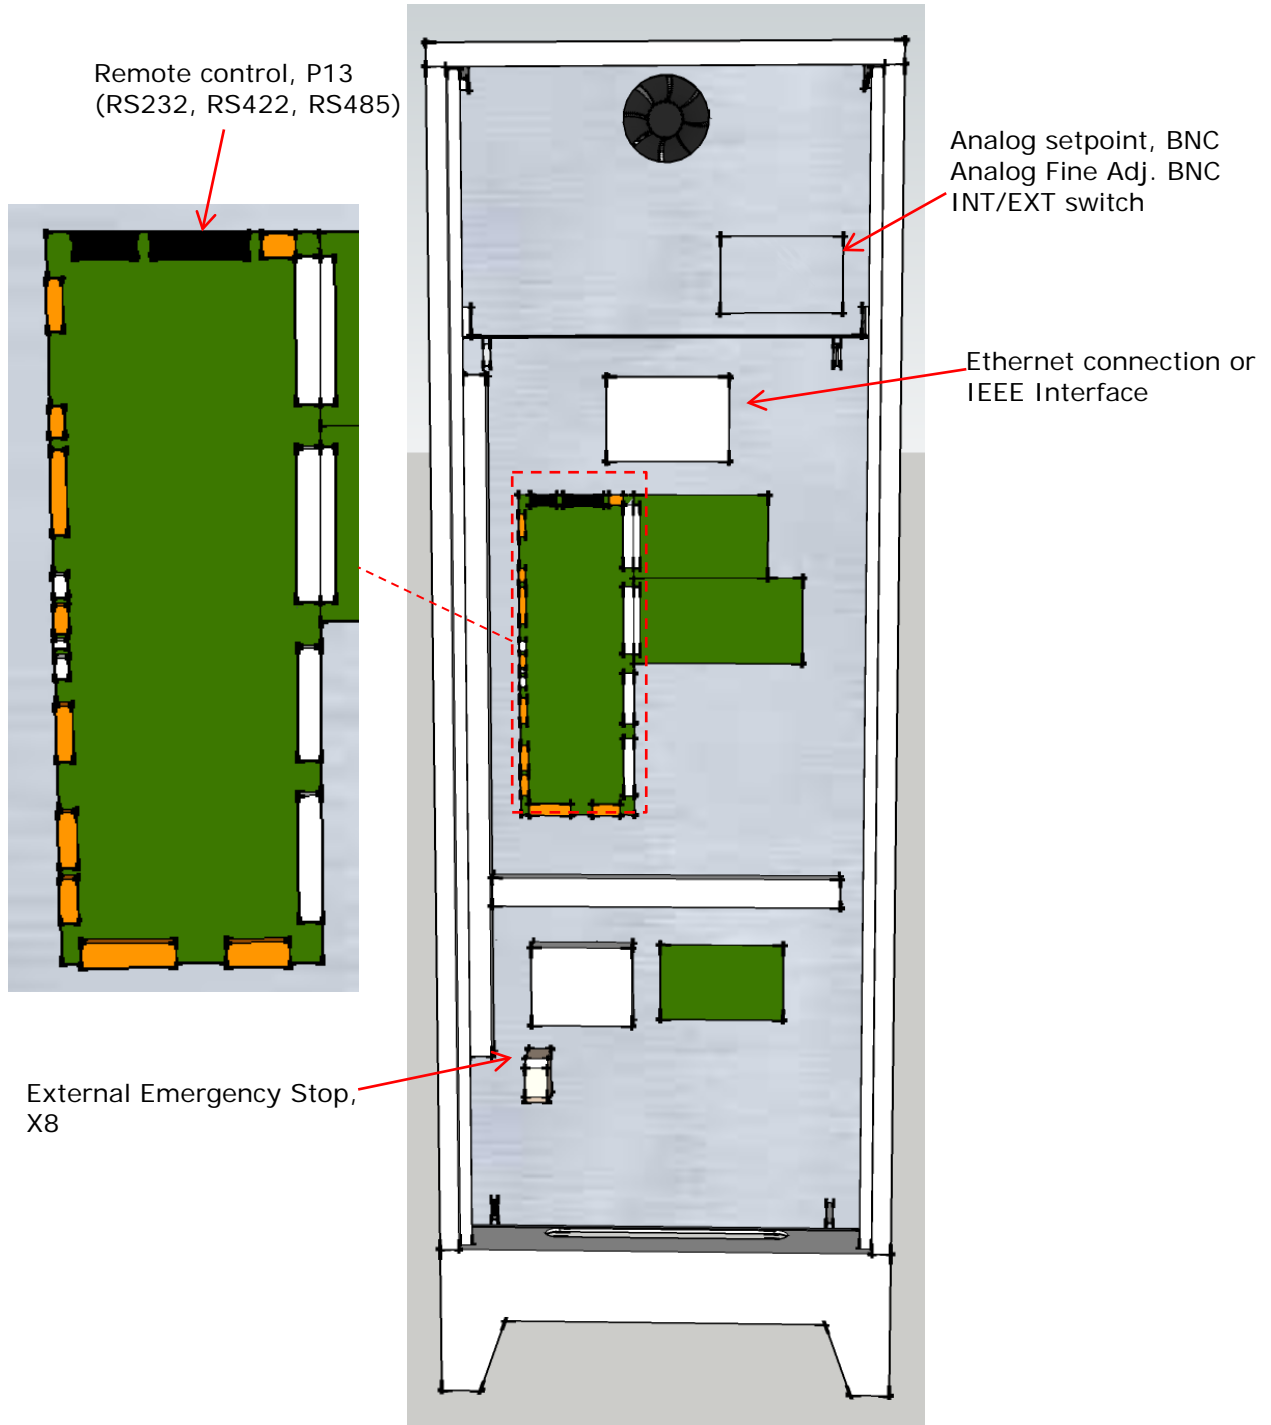

Figure 1. Electrical connections, cabinet front
- Connect the cable to connector P13 on the control board. See Figure 1 above.
- An external emergency switch can be connected to X8 pin 5-6 (Line) and pin 7-8 (Interlock). X8 is located on the electronic plate behind the front door. See Figure 1 above.
- The emergency switch is in series with the control power (AC) to the main circuit breaker coil. If the circuit is open, the main circuit breaker is switched off. The emergency switch must have two sets of normally closed (N/C) contacts. Connect one to pin 5 and 6 and the other to pin 7 and 8. By connecting to pin 7 and 8, an interlock is set when the emergency switch is open.
- The connection for the Ethernet cable (denoted X7 on main schematic) is located on the electronic plate behind the front door. See Figure 1 above.
- The connection for the IEEE cable (denoted X7 on main schematic) is located on the electronic plate behind the front door. See Figure 1 above.
- The connection for the analog setpoint is located on the electronic plate behind the front door. See Figure 1 above.
- The connection for the fine adjustment is located on the electronic plate behind the front door. See Figure 1 above.